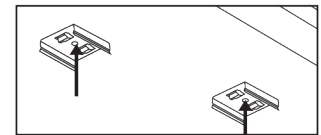

FIG. 8
2. Remove light bars from bar mounting clips to expose the screw holes. (See FIG. 8) **NOTE:** Skip this step for wire clips as the screw hole is already exposed.